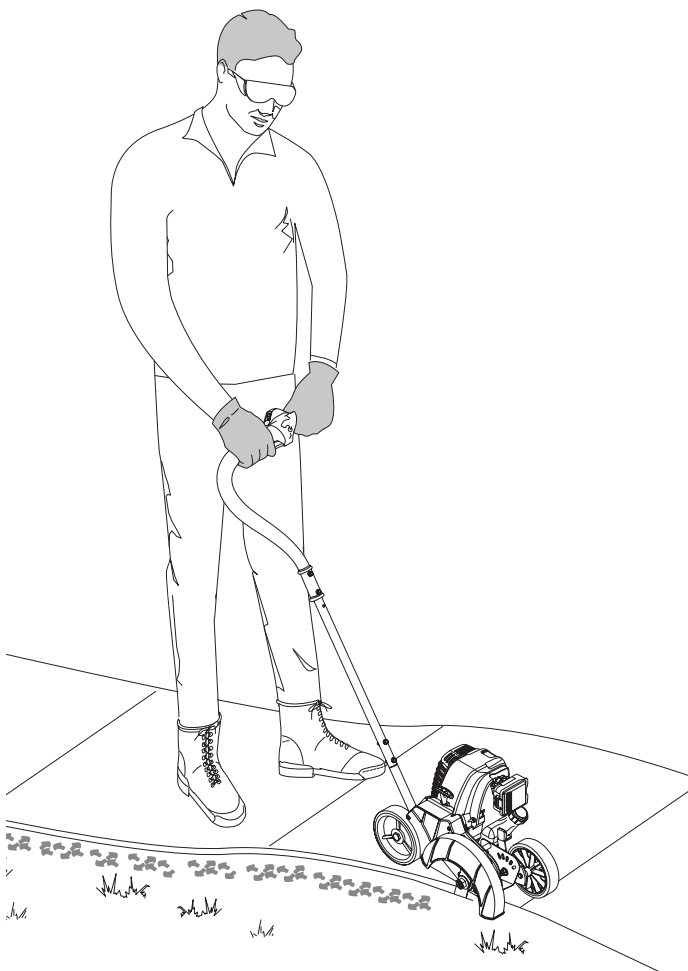
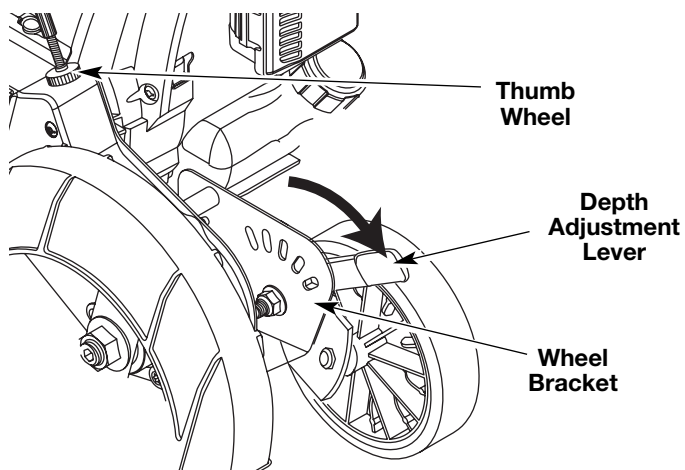

Fig. 12
Fig. 13
Before operating the unit, stand in the operating position (Fig. 12). Check for the following:
- The edger wheel adjusted for proper cut depth as shown in Figure 13 and edger positioned as shown in Figure 12.
1. Grasp the depth adjustment lever located beside the front wheel (Fig. 13).
2. To raise the cutting blade, move the lever toward the front of the wheel bracket (Fig. 13). Lowering the wheel decreases the cutting depth.
1. Locate small thumb wheel on top of the belt housing (Fig. 13).